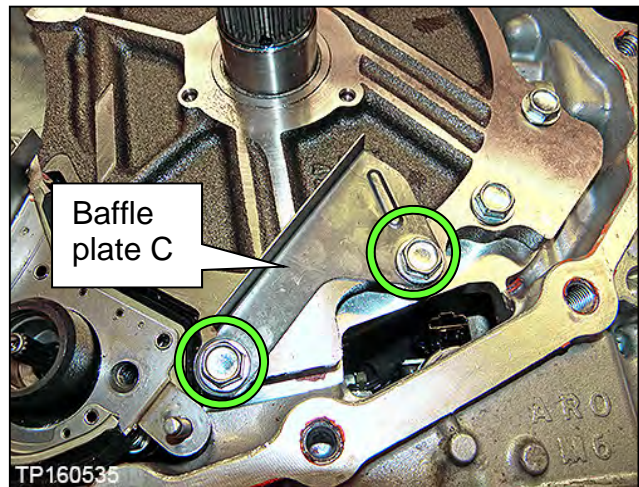

Figure 46
28. Remove the two (2) bolts from baffle plate C, and then remove baffle plate C (Figure 46).